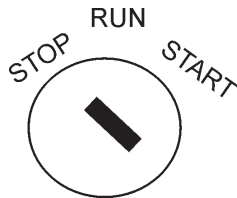

Figure 76. Starter Switch (Stop Position)
4. Turn the starter switch to "STOP" position (Figure 76).